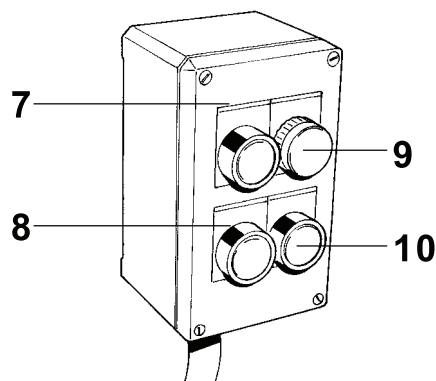

Fig. 12
2.10 PANNELLO COMANDI (FIG. 12)
2.10 CONTROL PANEL (Fig. 12)
2.10 TABLEAU DE COMMANDE (FIG. 12)